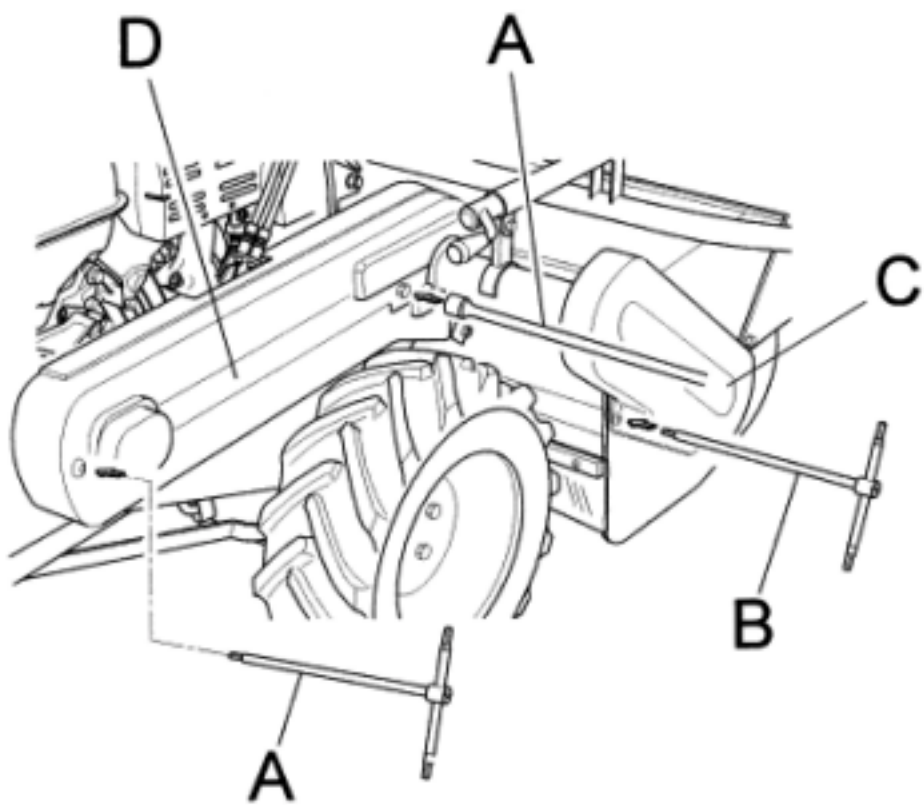

Fig. 9
- remove the plastic guard (fig. 9 ref. C), by unscrewing and taking out the screws shown in figure 9 ref. B
- To access the transmission belts and rotor brake adjustment device area, remove the plastic guard (fig. 9 ref. D) and unscrew and remove the 4 screws shown in figure 9 ref.A.
- The belt guard (Fig. 9 refs. D and C) and flail guards (Fig. 1 ref. H) must always be correctly installed and intact. If they become damaged, have them repaired before the machine is used again.
- Clean the inside of the belt guard (fig. 9, ref. D) with a blast of compressed air.